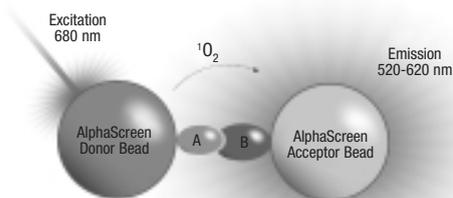
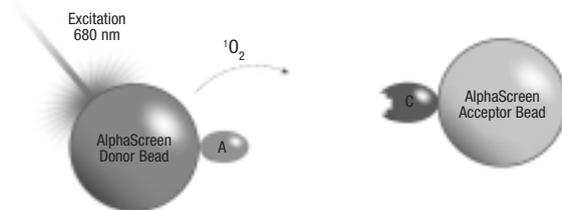

Figure 1: AlphaScreen Binding
Figure 2: No Binding
Proximity of Acceptor to Donor beads depends on the biological interaction of the molecules bound to them. The most common AlphaScreen assay is constructed by capturing one binding partner, such as a receptor, onto the Donor beads and the other partner, such as the ligand, onto the Acceptor beads. When the partners interact, chemical energy is transferred from Donor to Acceptor beads and a signal is produced (Figure 1). Alternatively, competition or cleavage assays can be read as signal reduction (Figure 2). Donor beads are typically sold as streptavidin (SA) conjugates, since biotinylation of one binding partner provides efficient capture onto the Donor bead. Acceptor beads come in a variety of conjugates, primarily to antibodies (anti-species IgG, anti-His, anti-FLAG®, anti-phosphopeptide, etc.); the second binding partner would then need to have the corresponding antigen attached. Both beads are also available unconjugated and may be coated directly to the binding partners via a simple reductive amination protocol.